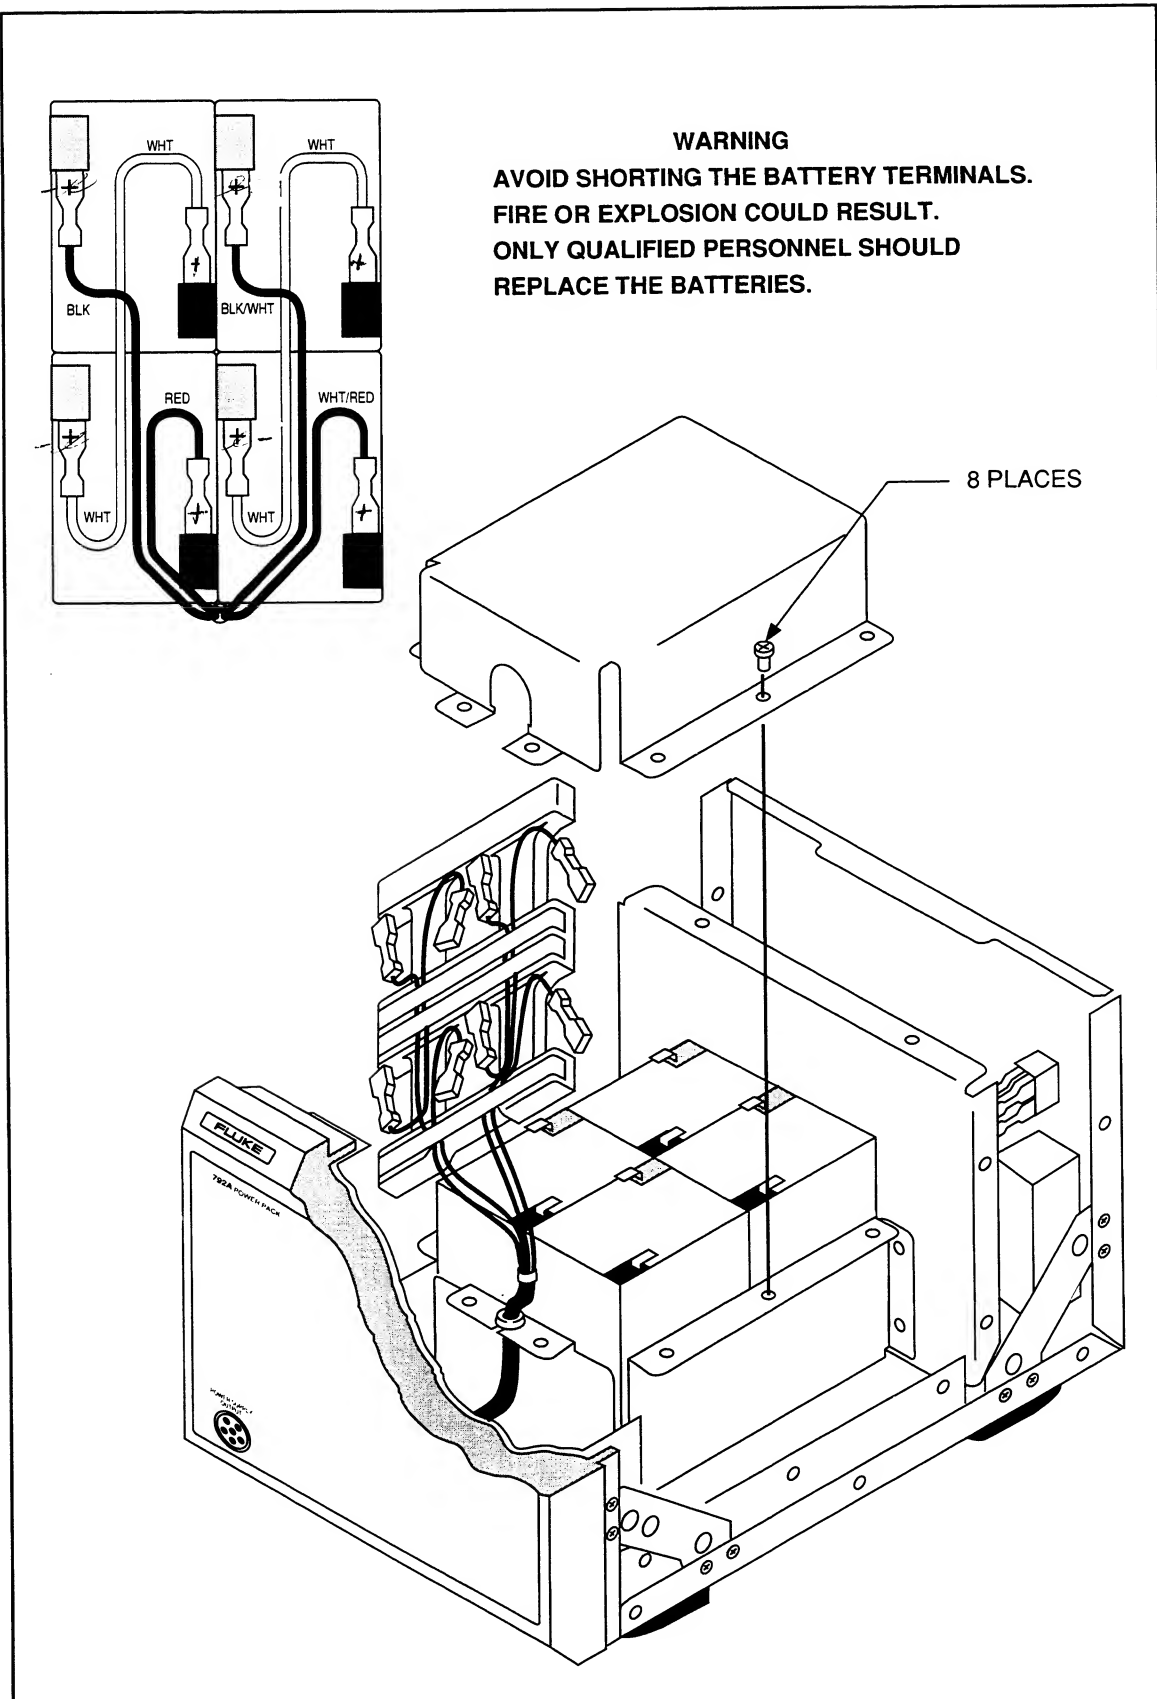

Figure 5-3. Accessing the Battery and Battery Lead Wiring
4. Replace the four batteries with new ones, and reconnect the battery leads as shown in Figure 5-3.